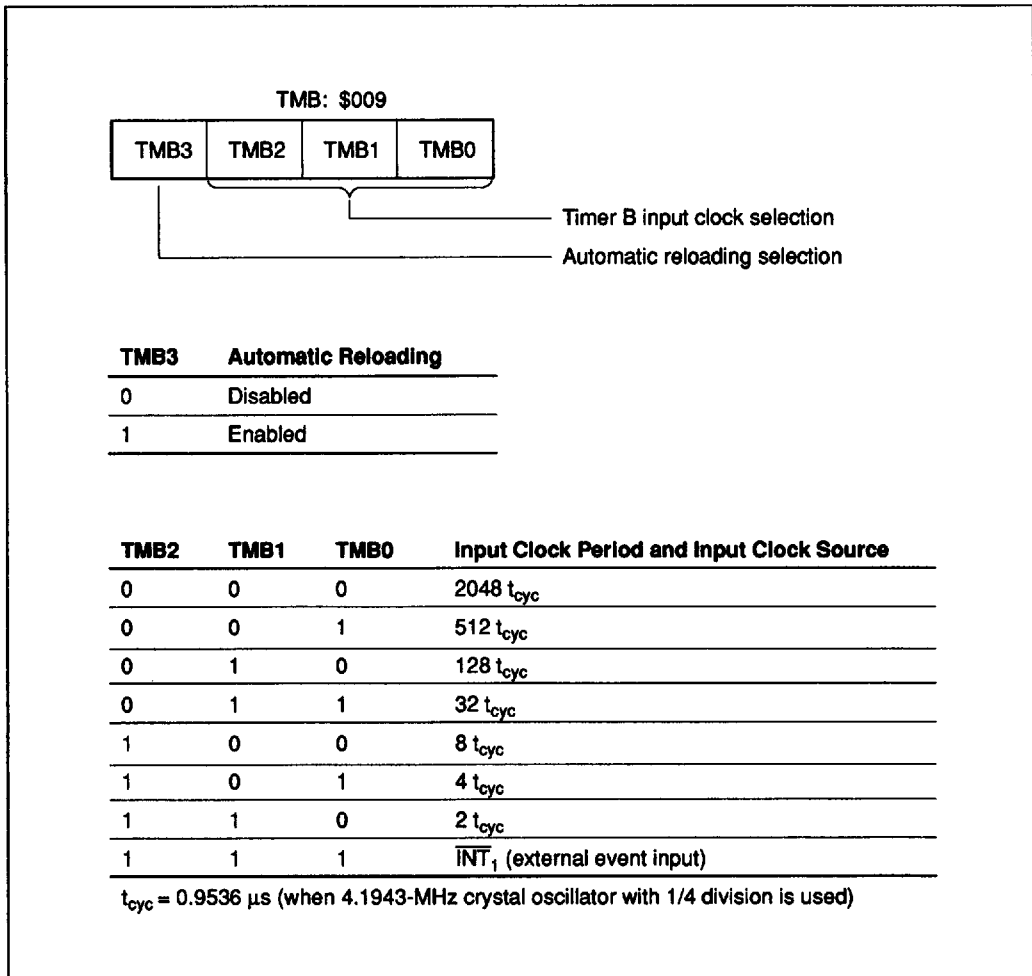

Figure 30 Timer Mode Register B
**Timer Mode Register B (TMB: \$009):** Four-bit write-only register which selects the automatic reloading function, input clock source, and the prescaler division ratio for timer B as shown in figure 30. It is initialized to \$0 by MCU reset.